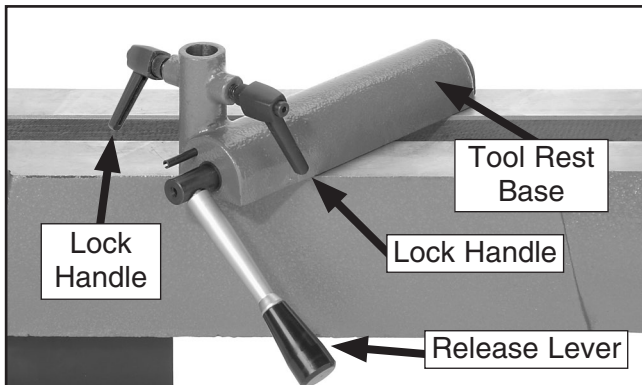

Figure 6. Tool rest lock handles installed onto tool rest base.
2. Thread the tool rest lock handles into the tool rest base (**Figure 6**) until the threaded ends of the handles are flush with the inside of the shaft.